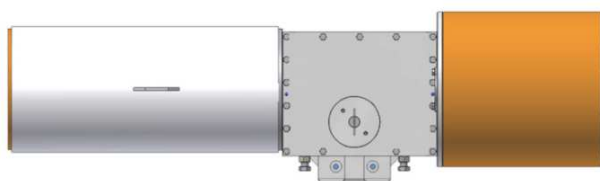

Figure 1 - OPTION "A" Central Stroke Adj. - STD
8.3.1.9. **For actuator with central stroke adjustment - OPTION "A" (Figure 1 & Figure 3):** Screw in the Central Module the stop cap screw (CW09) with the nut (CW10); adjust the stroke (see par. 9).